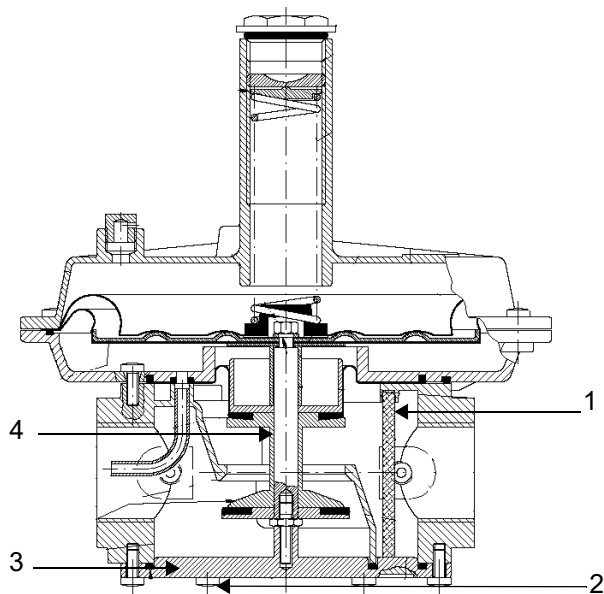

Fig. 17 - threaded body
To check the filtering part (1) on threaded bodies (see picture Fig. 17):
- remove the filtering part (1), clean it with water and soap, blow it with compressed air or replace it if necessary;
- reassemble the filtering part in its initial position checking that it is placed in its own slots (see picture Fig. 17);
- reassemble the bottom cover (3), being sure that the main bolt is centered in the bottom cover slot.